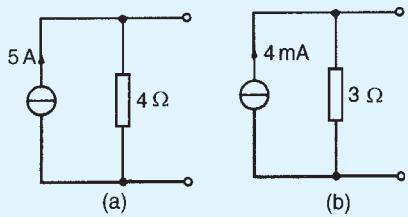

Figure 13.77
2. Convert the networks shown in Fig. 13.77 to Thévenin equivalent circuits